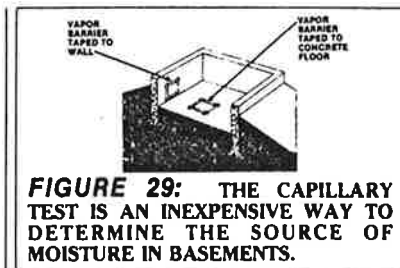

FIGURE 29: THE CAPILLARY TEST IS AN INEXPENSIVE WAY TO DETERMINE THE SOURCE OF MOISTURE IN BASEMENTS.
3. Cover the dried area with a vapor retarder, preferably polyethylene, firmly attached and sealed with tape around the edges (see Figure 29).